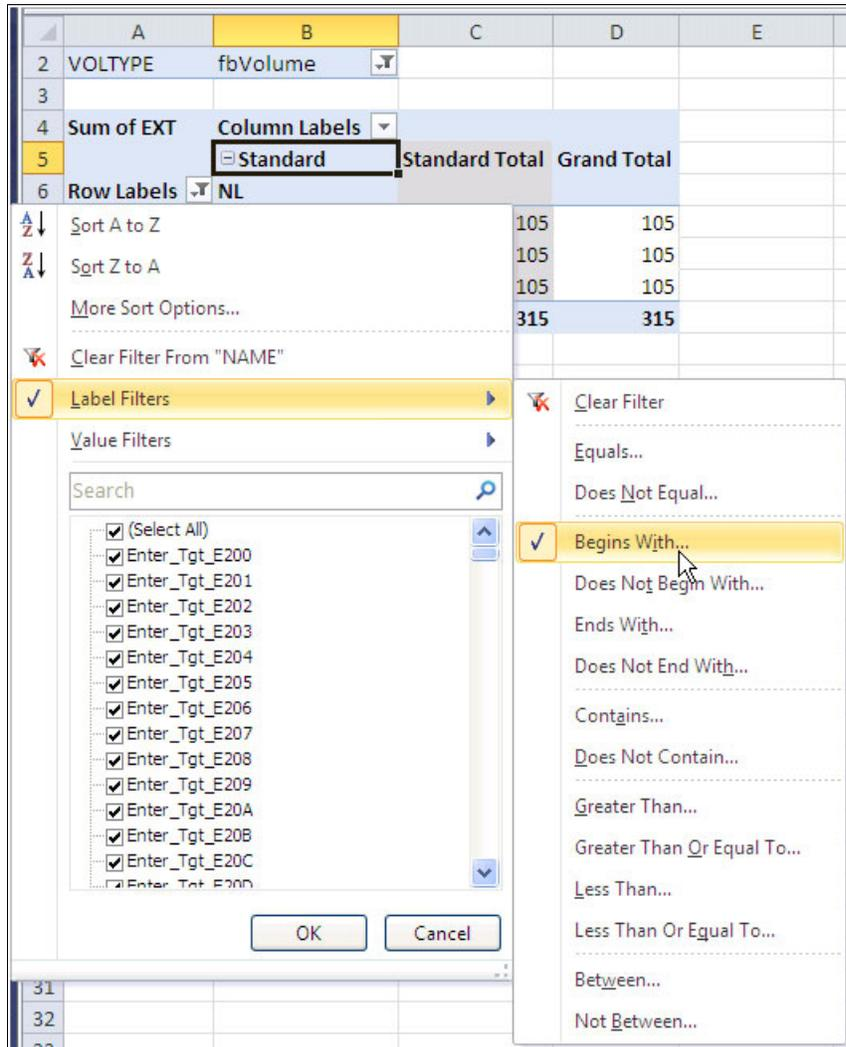
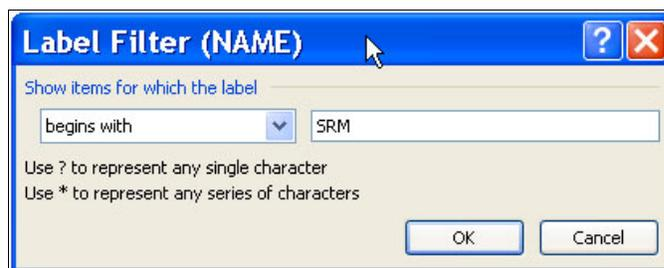

Figure 19 Optional filters
Figure 20 Filter with names that begin with SRM
- You can use various label filters to select specific volumes, for example, all the volumes that begin with "SRM". These options are shown in Figure 19, Figure 20, and Figure 21 on page 20.